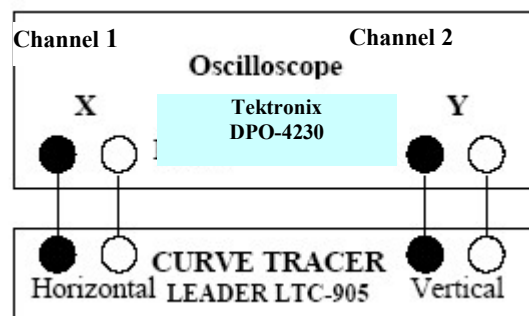

Fig. 3.1 Connection of curve tracer to Oscilloscope and the diode
3. Repeat the same connections for **Channel 2** (corresponding to the Y or VERTICAL axis) of the oscilloscope and the VERTICAL outputs of the curve tracer as shown in Fig. 3.1.